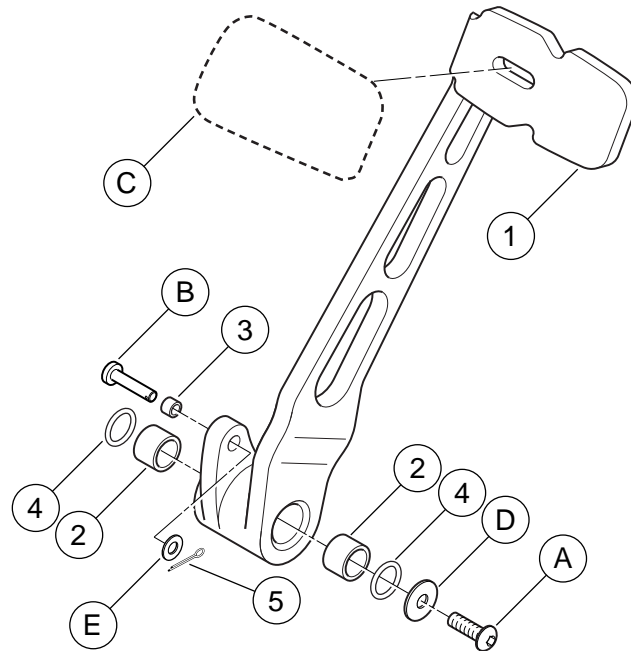

Figure 1. Service Parts: Rear Brake Levers
See Figure 1 and Table 1.
1. See Figure 1. Remove the cotter pin (5) and washer (E) from the master cylinder clevis pin (B). Discard the cotter pin.
1. See Figure 1. Insert the new O-rings (4) on either side of the lever bushings (2). Install the new brake lever (1) onto the mounting shaft.